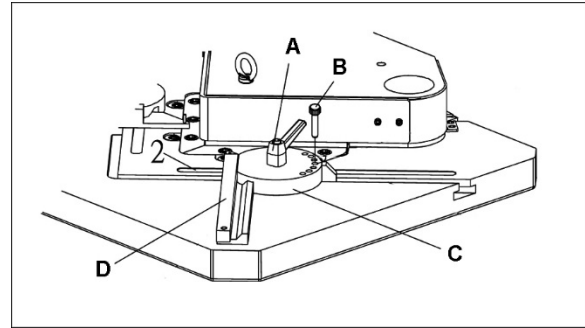

Figure 7-1
2. Loosen handle (A, Figure 7-1) and slide fences to accommodate workpiece size.
3. Remove pin (B) and adjust reference block (C) to desired angle.
4. Adjust left and right fences (D) to match workpiece.